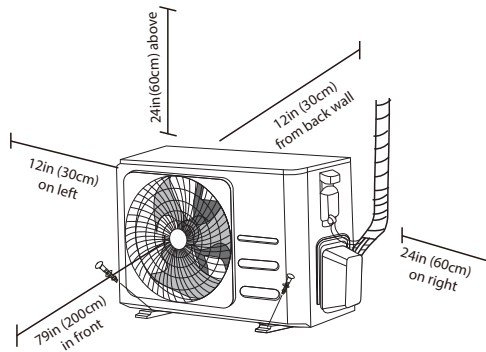

Fig. 8 — Unit Clearances
- Meets all clearance requirements (see Figure 8).